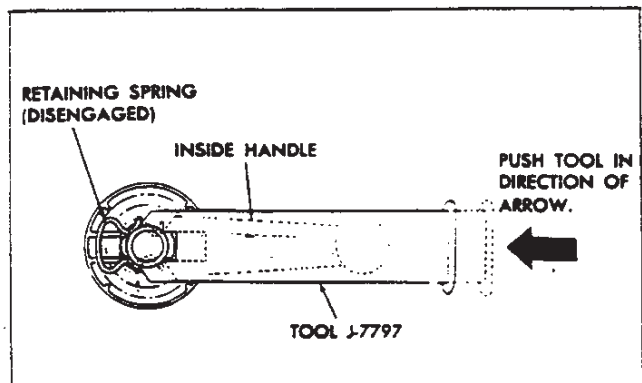

Fig. 24—Removing Window Crank with J-7797
DOOR LOCK AND REMOTE CONTROLS (Fig. 24)
3. Position window all the way up to line up two (2) sash screws through access holes.
4. Remove two (2) sash screws on horizontal guide channel while holding nut with other hand (fig. 24).
5. Disengage stop by removing one (1) Phillips head screw at top of channel assembly.